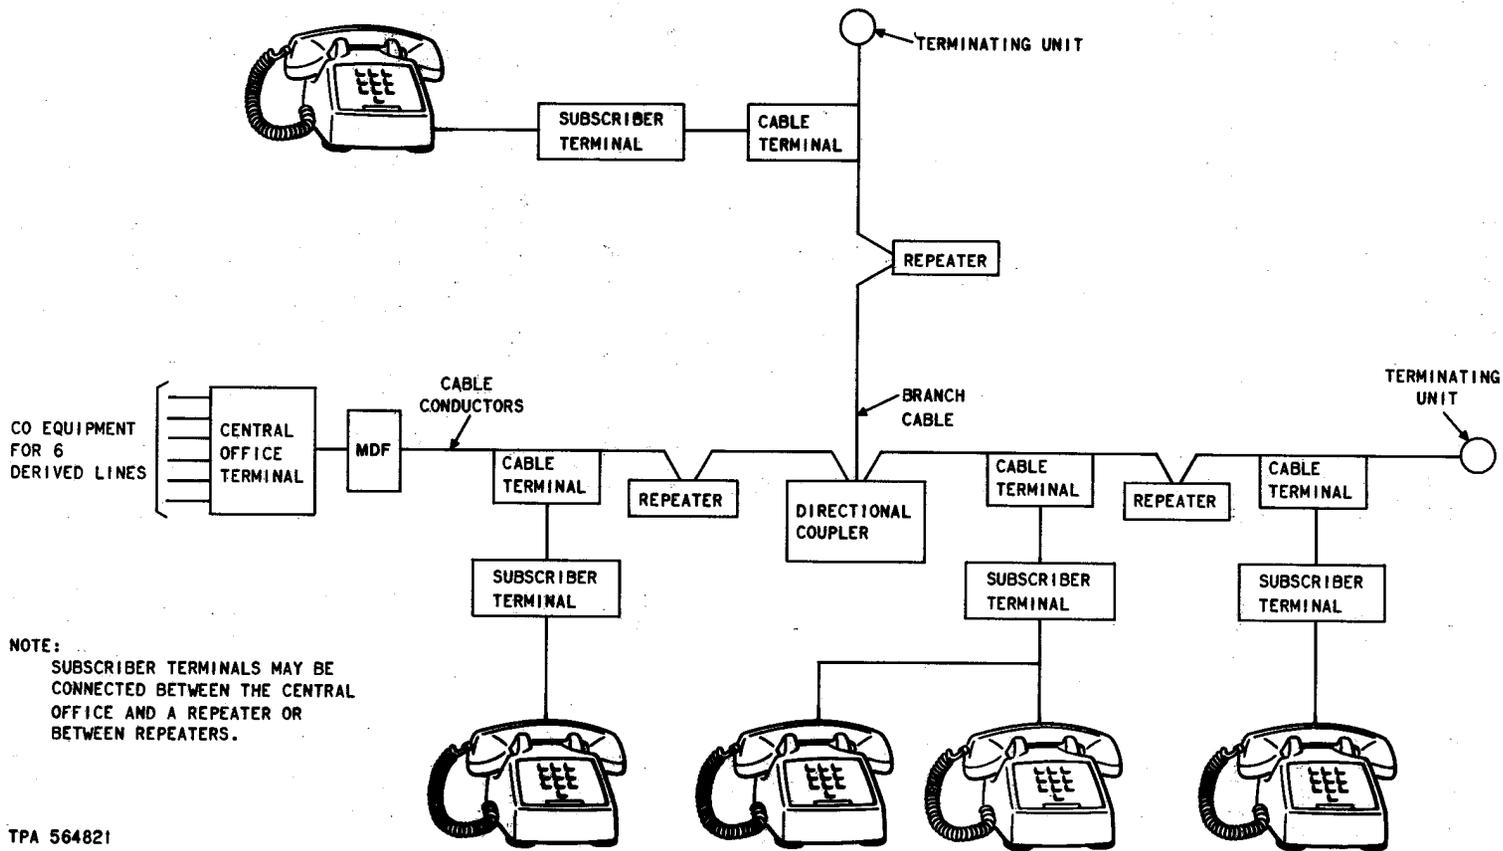

Fig. 16—Typical KS-20988 Multichannel Subscriber Carrier System.
**6.117** A typical carrier system (Fig. 16) consists of: